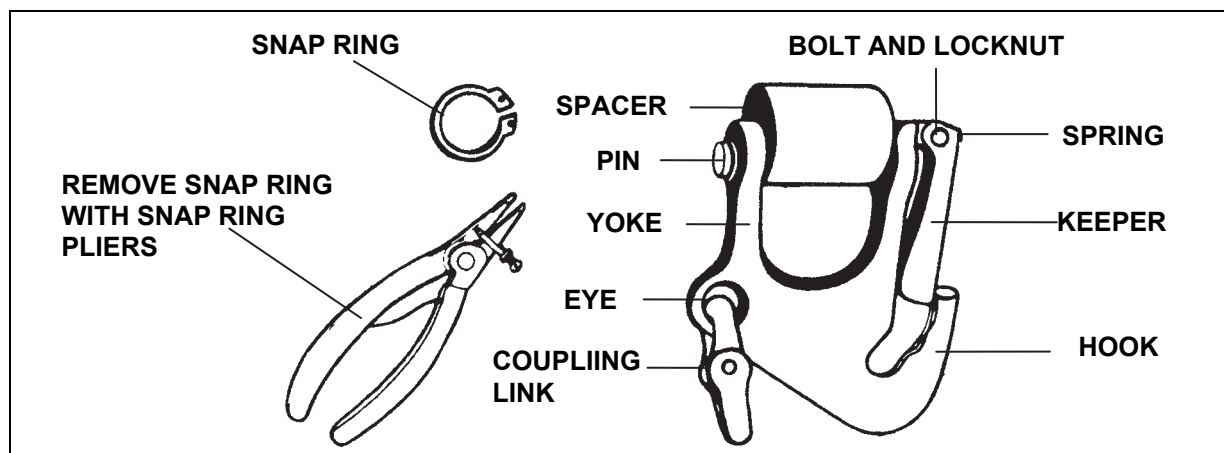

Figure 6-8. Grabhook Assembly
- Grabhook Assembly.** The grabhook assembly (figure 6-8) is attached to the lower eye of the nylon rope and attaches the nylon rope assembly to the chain. It is used to adjust the chain length. The upper part of the grabhook (the yoke) contains a pin and spacer that are used to attach the nylon rope to the grabhook. A snap ring holds the pin in place. The spacer provides a large diameter surface for the eye of the nylon rope. The bottom part of the grabhook has an eye at one side. The attached coupling link connects the chain to the grabhook assembly. Opposite the eye is a hook into which any selected chain link is inserted to vary the length of the chain